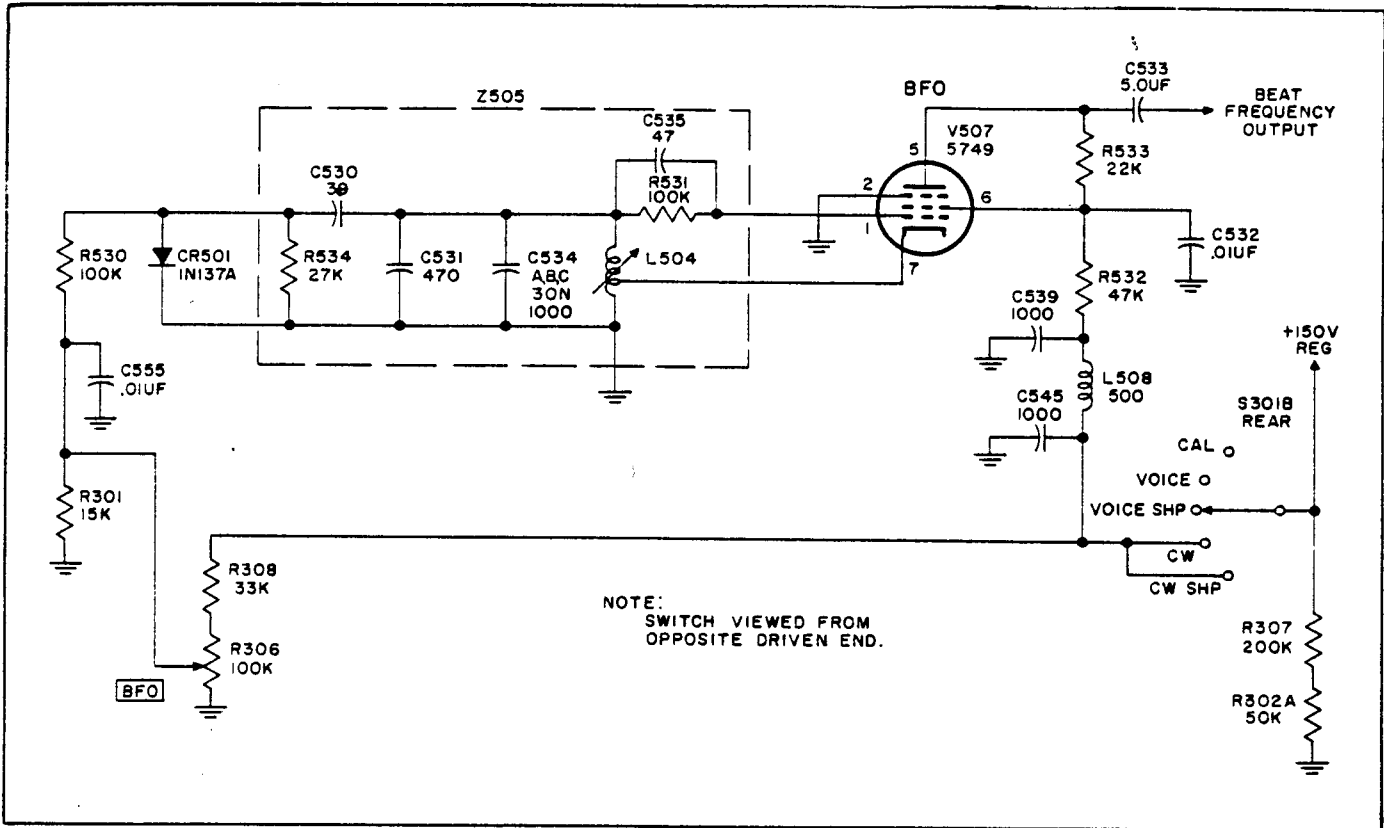

Figure 4-15. Beat Frequency Oscillator, Simplified Schematic Diagram
**4-25. BEAT-FREQUENCY OSCILLATOR.** (See figure 4-15.) The beat-frequency oscillator, V507, employs a 5749 type pentode tube in a series-fed electron-coupled oscillator. This type oscillator functions in the same manner as a Hartley oscillator, with the screen grid acting as the plate circuit of the oscillator, and coupling to the actual plate circuit taking place in the electron stream. The basic advantage over a conventional Hartley oscillator is the fact that the output plate circuit is isolated from the oscillator plate circuit, and frequency stability is improved. The oscillator tank circuit consists of inductor L504 and capacitors C534A/B/C, C531, and C530. Capacitor C530 is made effectively variable by the action of the biased diode, CR501. A variable d-c voltage is